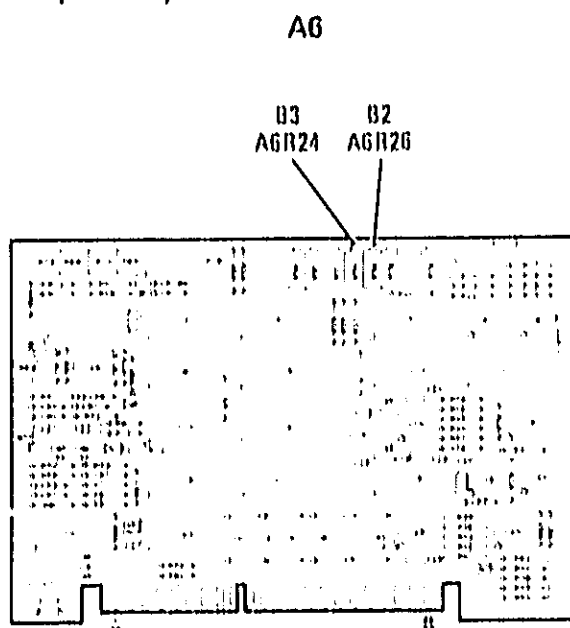
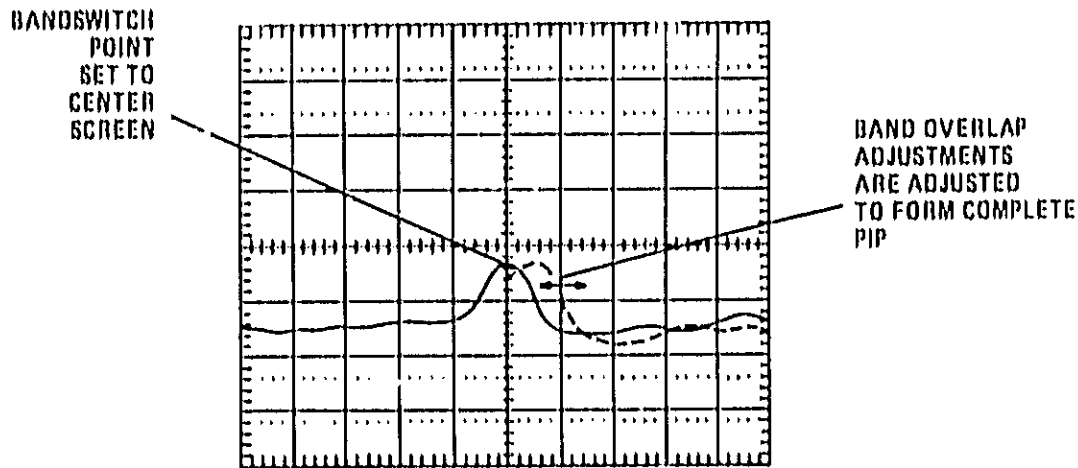

Figure 5-26. Band Overlap Adjustment Locations
Figure 5-27. Band Overlap Adjustment Waveform
7. Adjust A6R26 (B2) to bring the right side pip over to the switch point so that the right half of this pip mates with the left half of the other as shown in Figure 5-27. Refer to Figure 5-26 for the adjustment location. The pip should be undisturbed as it moves through the bandswitch point.